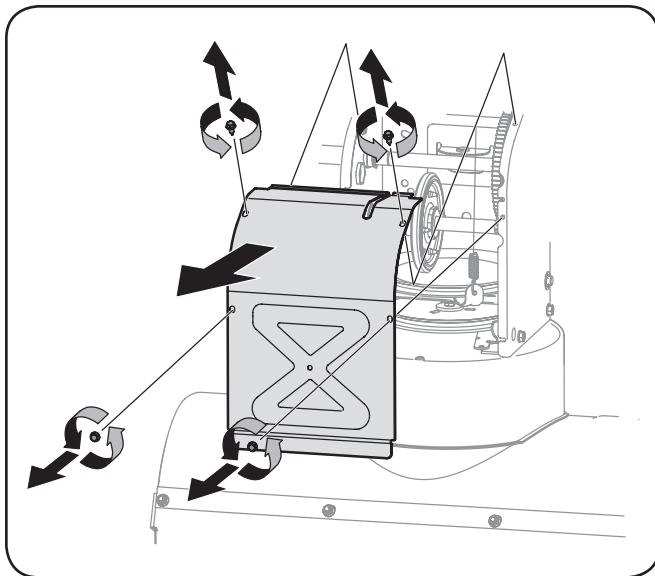

Figure 7-4
- Remove the frame cover from the underside of the snow thrower by removing the self-tapping screws which secure it. See Figure 7-4.
- Remove the frame cover from the underside of the snow thrower by removing four self-tapping screws which secure it. See Figure 7-4.